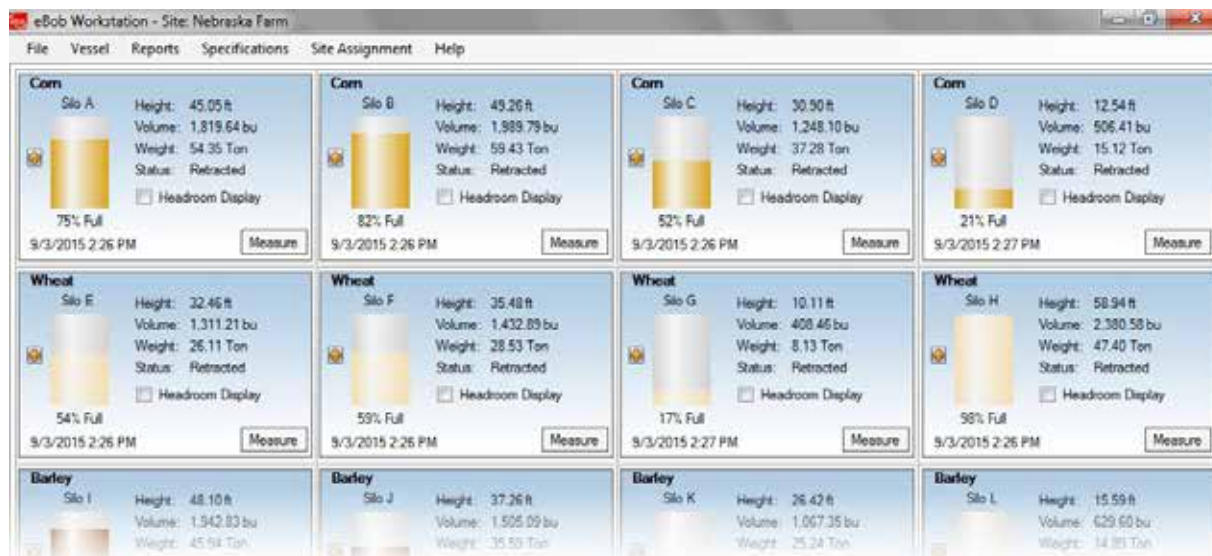

Figure 1
The main screen of BinInventory Workstation shown in Figure 1 provides a table of vessels, each represented by a panel, providing visual and detailed level indication. The main screen can display 16 vessels (panels) at a time with tabs along the bottom for quickly switching to view more vessels. There is also a menu system along the top that provides access to configuration screens for vessel setup, site setup, scheduling, alarms, email alerts and more.
1. **Workstation** – This provides the user interface for Bininventory. It is what you will use to view vessels,  product levels, configure the system and create reports. See Figure 1. It runs like most Windows programs. You double-click an icon on your desktop or click an icon in your Windows start menu, and it opens a window for you to interface with, using a mouse and keyboard. There can be one or more Workstations in a Bininventory system. Refer to section **5 The Workstation** for details.